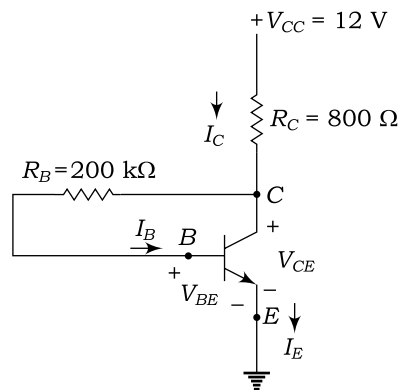

Fig. 2.118
45. Figure 2.118 shows the fixed bias with collector feedback circuit. Calculate the base current, collector current, collector to emitter voltage and stability factor. Assume $V_{BE} = 0.69 \text{ V}$ and $\beta = 45$.